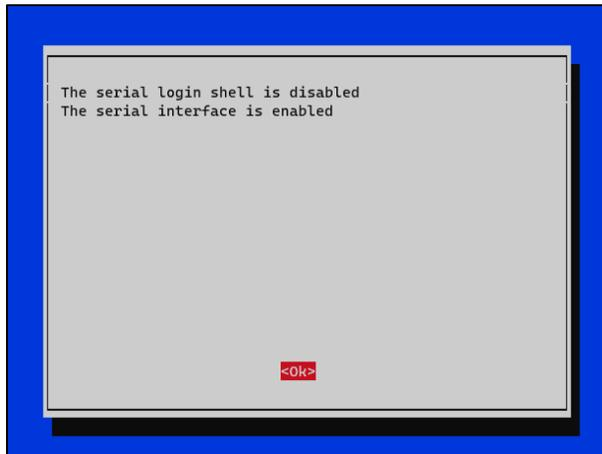

Figure 100 Confirmation of serial interface settings
- d. Ensure that the settings match those shown in **Figure 100**.